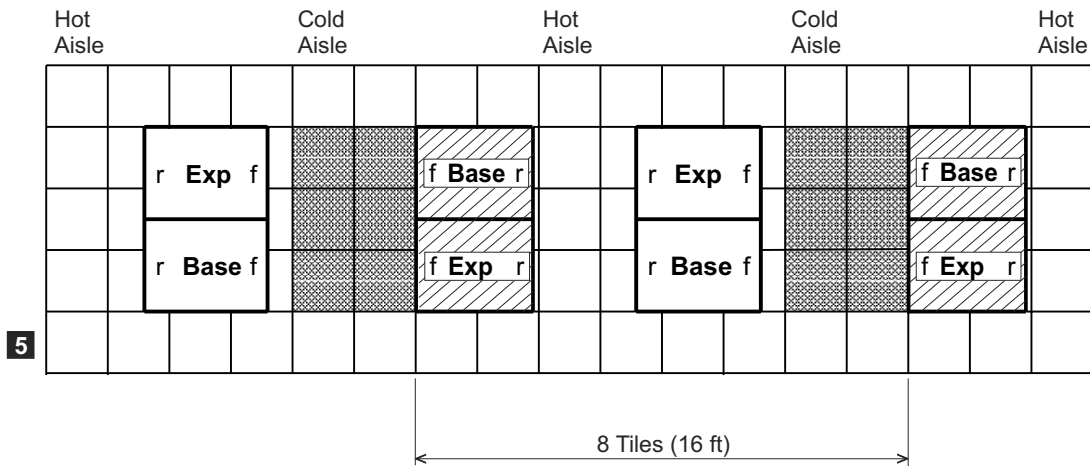

Figure 28. DS8870 layouts and tile setup for cooling
- a. For a stand-alone base frames, install two fully perforated tiles in front of each base frame, as shown in Figure 28 on page 161 in the single-machine examples (**1** and **2** in the figure).
- b. For a row of storage systems, install a row of perforated tiles in front of the storage systems as shown in Figure 28 (**3** and **4** in the figure).
- c. For groupings of storage systems, where a hot aisle/cold aisle layout is used, use a cold aisle row of perforated tiles in front of all storage systems. A possible minimal configuration is shown in Figure 28 (**5** in the figure).
Note: Keep in mind that the dimensions represented in Figure 28 might not be adequate for floor-load requirements.